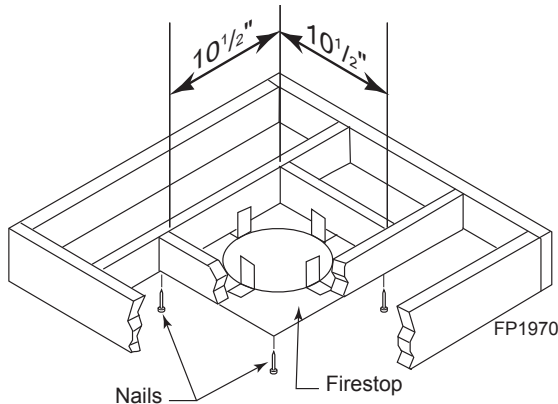
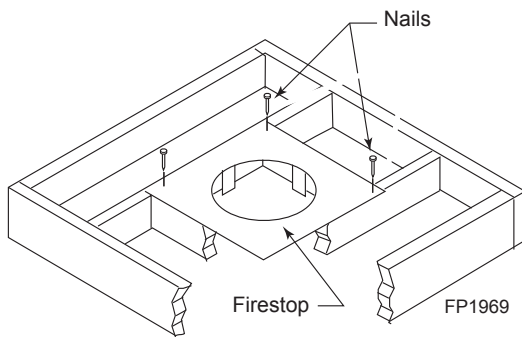

Figure 33 -
Figure 34 -
1. Cut a 10½" (267 mm) square hole in the ceiling using the locating hole as a center point. The opening should be framed to 10½" x 10½" (267 x 267 mm) inside dimensions as shown in *Figure 33* using framing lumber the same size as the ceiling joist. If the area above the ceiling is an insulated ceiling or a room, nail firestop from the top side. This prevents loose insulation from falling into the required clearance space. *Figure 34*.
Otherwise, install firestop below the framed hole. The firestop should be installed with no less than three (3) nails per side. *Figure 34.*